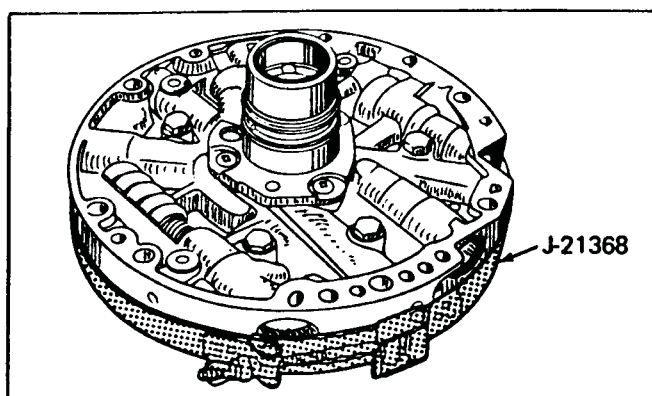

Figure 102
17. Install alignment tool J-21368 onto oil pump assembly as shown in Figure 102.